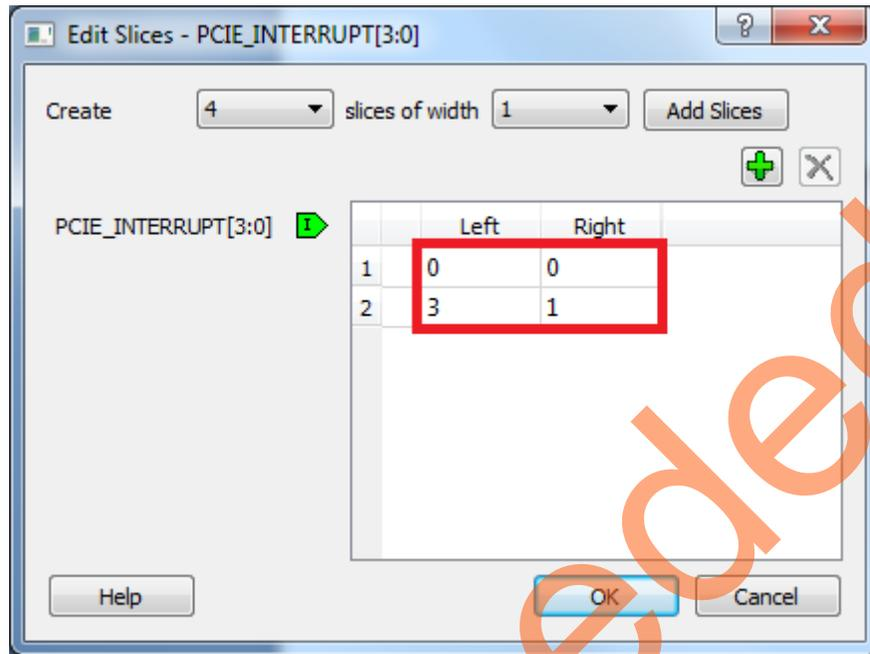

Figure 33 • Edit Slices
30. Click the + sign and create a slice with the Left index 0 and the Right index 0. Click + again to create a second slice with Left index 3 and Right index 1 as shown in Figure 33.